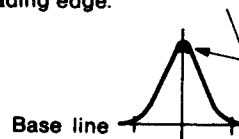

Fig.1
- Feed in a weak signal to L104 from the genescope. Adjust T101 for maximum gain and the waveform indicated in Fig. 1. If the center of the waveform cannot be lined up on the maker, adjust the right/left balance.